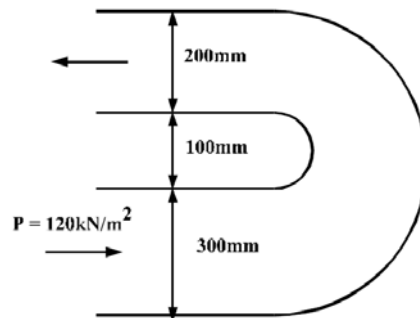

Figure 5: Water flows along a circular pipe
- [b] Water flows along a circular pipe and is turned vertically through 180° by a reducing bend as shown in Figure 5. The rate of flow in the pipe is 20 litres/s, the pressure measured at the entrance to the bend is 120 kN/m^2 and the volume of fluid in the bend is 0.1 m^3 . What is the magnitude and direction of the force exerted by the fluid on the bend? Ignore any friction losses.